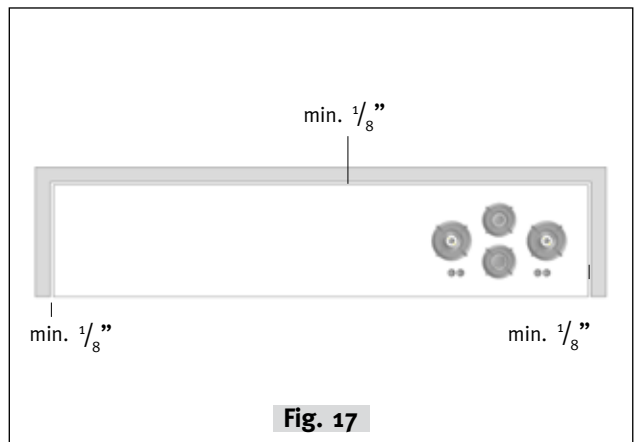

Fig. 17
- 3d. The distance between the kitchen worktop and the wall and/or cabinets should be at least  $\frac{1}{8}$ " (3 mm) (**fig. 17**). This allows the material to expand.